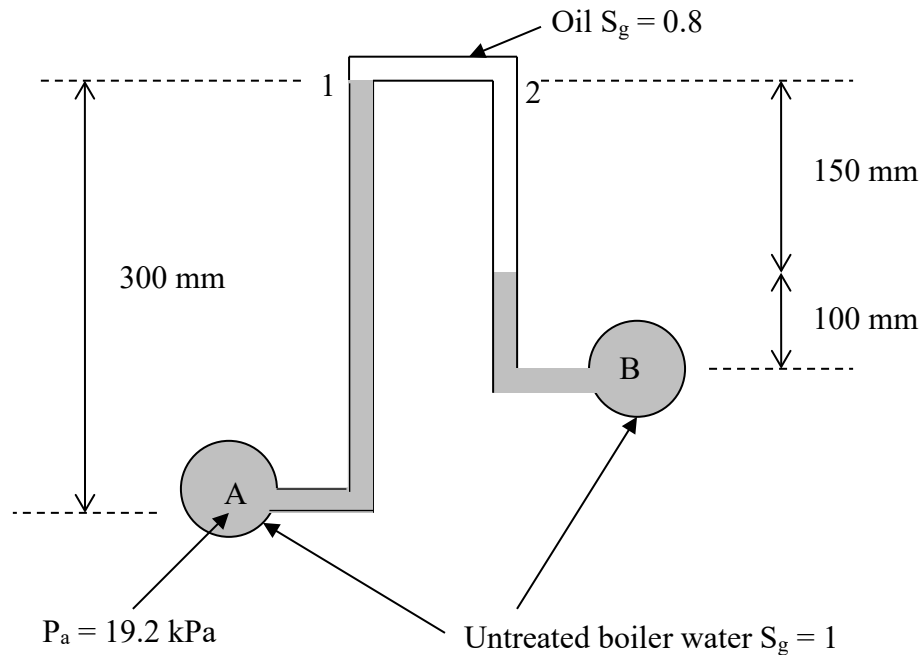

Figure 2(c) / Rajah 2(c)
- c) Figure 2(c) shows an inverted differential manometer. It contains oil with the specific gravity 0.8 and it is connected to two pipes which carry untreated boiler water with specific gravity 1.